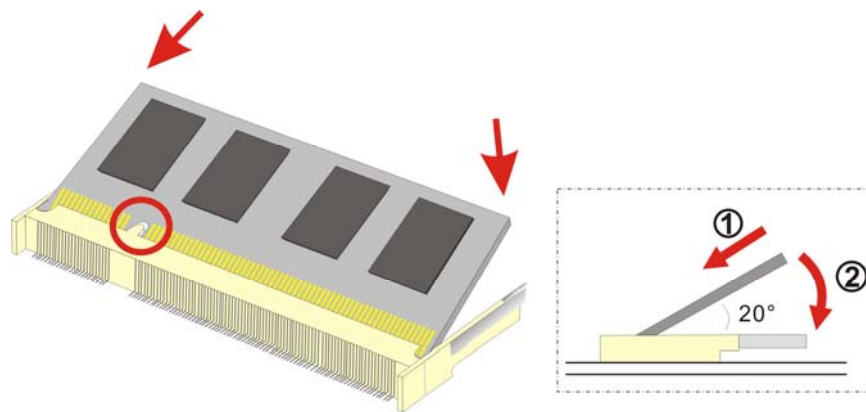

Figure 4-2: SO-DIMM Module Installation
- Step 4:** Install the new SO-DIMM by pushing it into the socket at an angle (**Figure 4-2**).